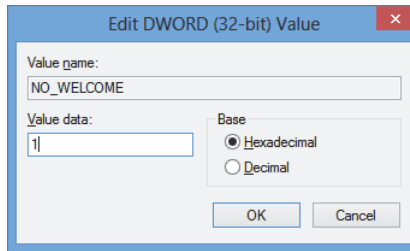

Figure 2-27 The Edit DWORD Value dialog box for the NO_WELCOME file
- d) Double-click the **NO_WELCOME** file, type **1** in the **Value data** box, and then click **OK** (see Figure 2-27 on page 50).